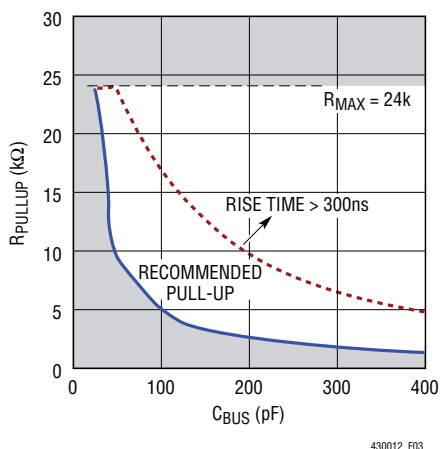

Figure 3. Bus Requirements for 3.3V Systems
**SCLOUT (Pin 2):** Serial Clock Output. Connect this pin to the SCL bus on the card. See Figures 3 and 4 for bus pull-up resistance and capacitance requirements.
**SCLIN (Pin 3):** Serial Clock Input. Connect this pin to the SCL bus on the backplane. See Figures 3 and 4 for bus pull-up resistance and capacitance requirements.
**SDAIN (Pin 6):** Serial Data Input. Connect this pin to the SDA bus on the backplane. See Figures 3 and 4 for bus pull-up resistance and capacitance requirements.
**SDAOUT (Pin 7):** Serial Data Output. Connect this pin to the SDA bus on the card. See Figures 3 and 4 for bus pull-up resistance and capacitance requirements.
In addition, regardless of the bus capacitance, always choose  $R \leq 16\text{k}$  for  $V_{CC} = 5.5\text{V}$  maximum,  $R \leq 24\text{k}$  for  $V_{CC} = 3.6\text{V}$  maximum. The start-up circuitry requires logic high voltages on SDAOUT and SCLOUT to connect the backplane to the card, and these pull-up values are needed to overcome the precharge voltage. See the curves in Figures 3 and 4 for guidance in resistor pull-up selection.
The LTC4300 I/O connection circuitry requires a minimum capacitance loading on the SDA and SCL pins in order to function properly. The value of this capacitance is a function of  $V_{CC}$  and the bus pull-up resistance. Estimate the bus capacitance on both the backplane and the card data and clock busses, and refer to Figures 3 and 4 to choose appropriate pull-up resistor values. Note from the figures
NOTE: APPLICATION ASSUMES BUS CAPACITANCES WITHIN "PROPER OPERATION" REGION OF FIGURES 3 AND 4
NOTE: APPLICATION ASSUMES BUS CAPACITANCES WITHIN “PROPER OPERATION” REGION OF FIGURES 3 AND 4